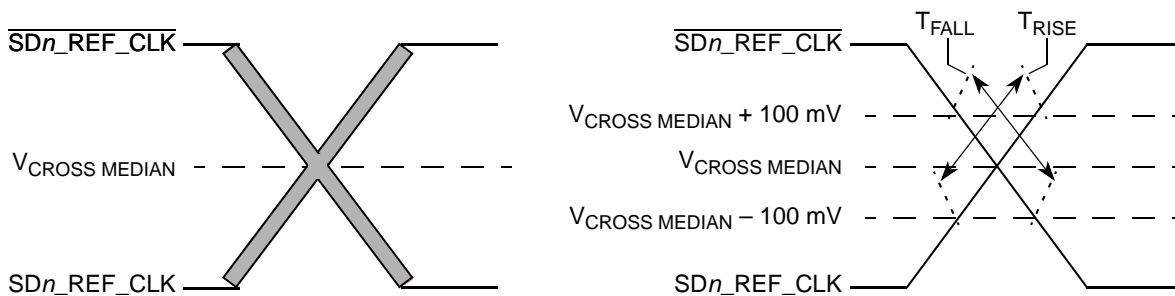

Figure 32. Single-Ended Measurement Points for Rise and Fall Time Matching
4. Matching applies to rising edge rate for SDn_REF_CLK and falling edge rate for $\overline{SDn_REF_CLK}$. It is measured using a 200 mV window centered on the median cross point, where SDn_REF_CLK rising meets $\overline{SDn_REF_CLK}$ falling. The median cross point is used to calculate the voltage thresholds the oscilloscope is to use for the edge rate calculations. The rise edge rate of SDn_REF_CLK should be compared to the fall edge rate of $\overline{SDn_REF_CLK}$, the maximum allowed difference should not exceed 20% of the slowest edge rate. See Figure 32.